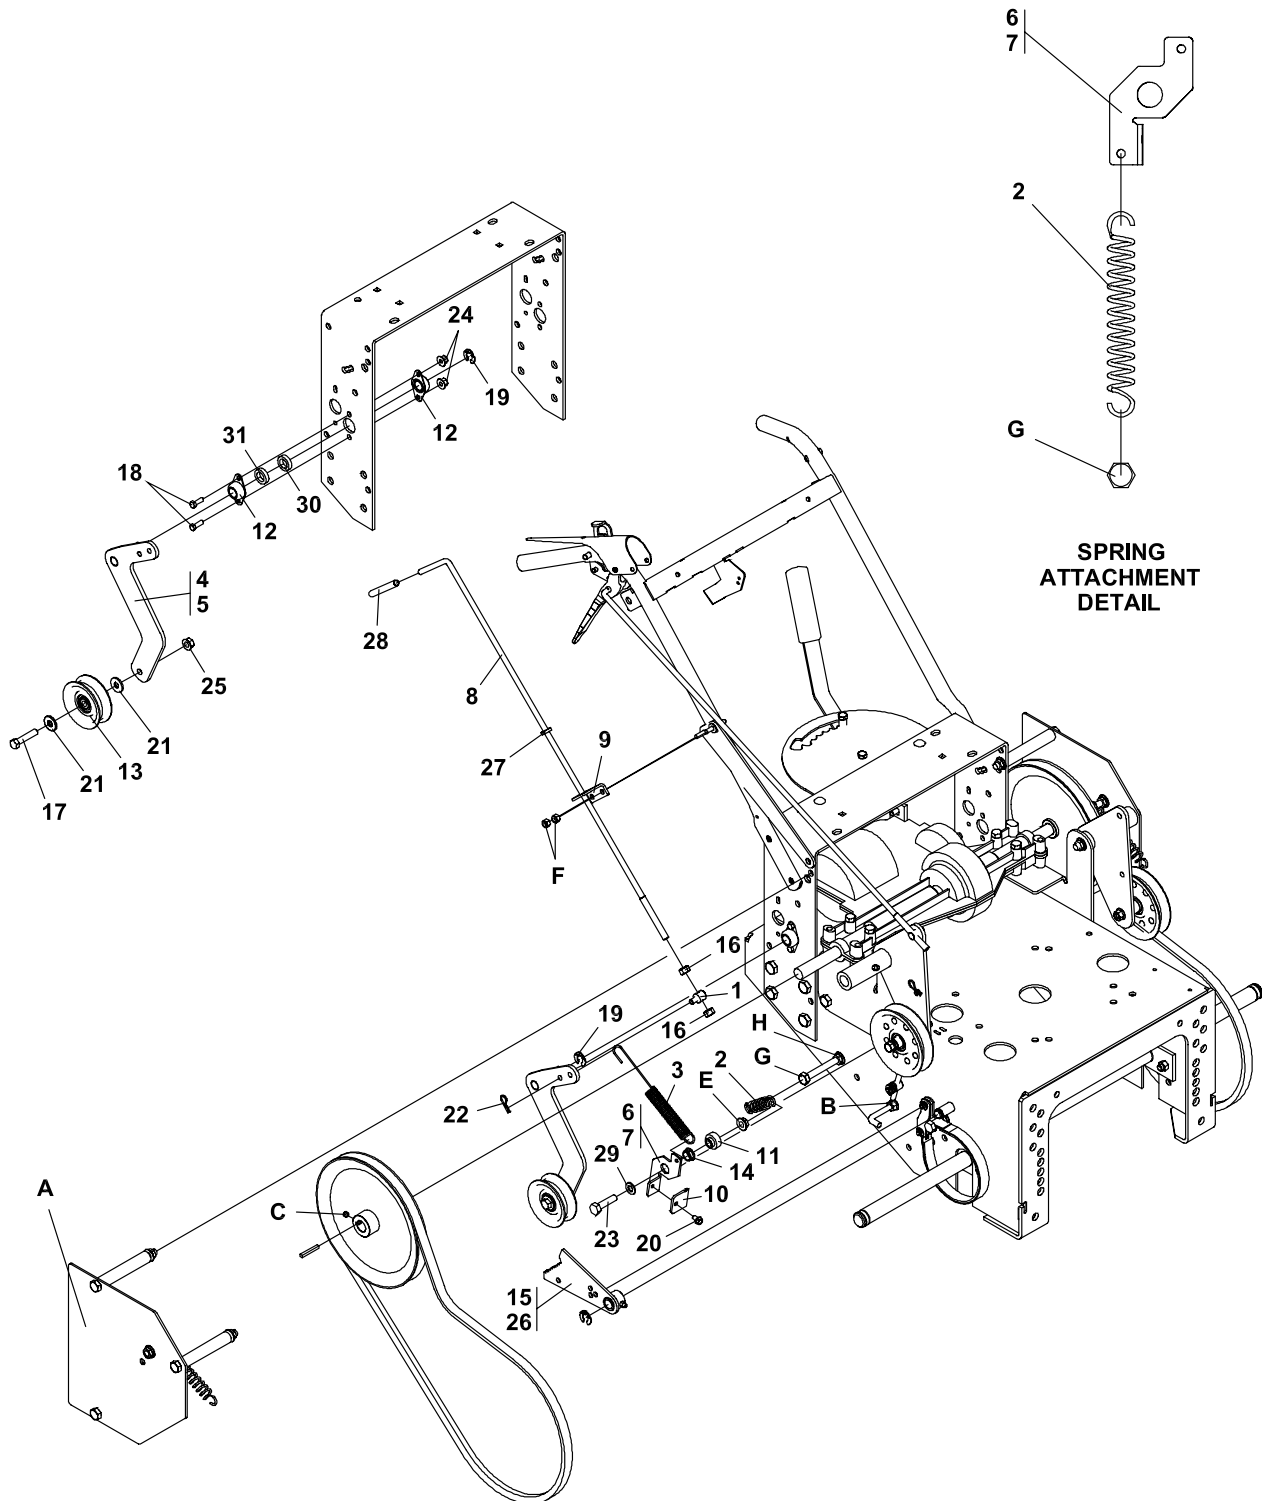

Figure 2
- If not, remove and save fasteners, brake band links and adjustment rod. Discard brake arm **I**. Identify LH **15** and RH **26** brake arm weldments from Figure 2 Page 4. The hubs are on the deck side of the arms. Lubricate the pivot shaft and install new arm as shown using existing fasteners, brake band links and adjustment rod. Attach brake band links at the lower hole location in the new arm.
Refer to Figure 2 on Page 4 for Steps 10-20. Corresponding numbers on the parts list located on Page 5 indicate components included in kit.
17. Refer to the spring attachment detail in Figure 2. Install one end of the short spring **2** in bottom hole in latch/lockout assembly **6, 7**. Attach the other end around the lower belt guide bolt **G** on the engine deck by loosening nuts **H**. Position spring on bolt towards the threaded end of the bolt.